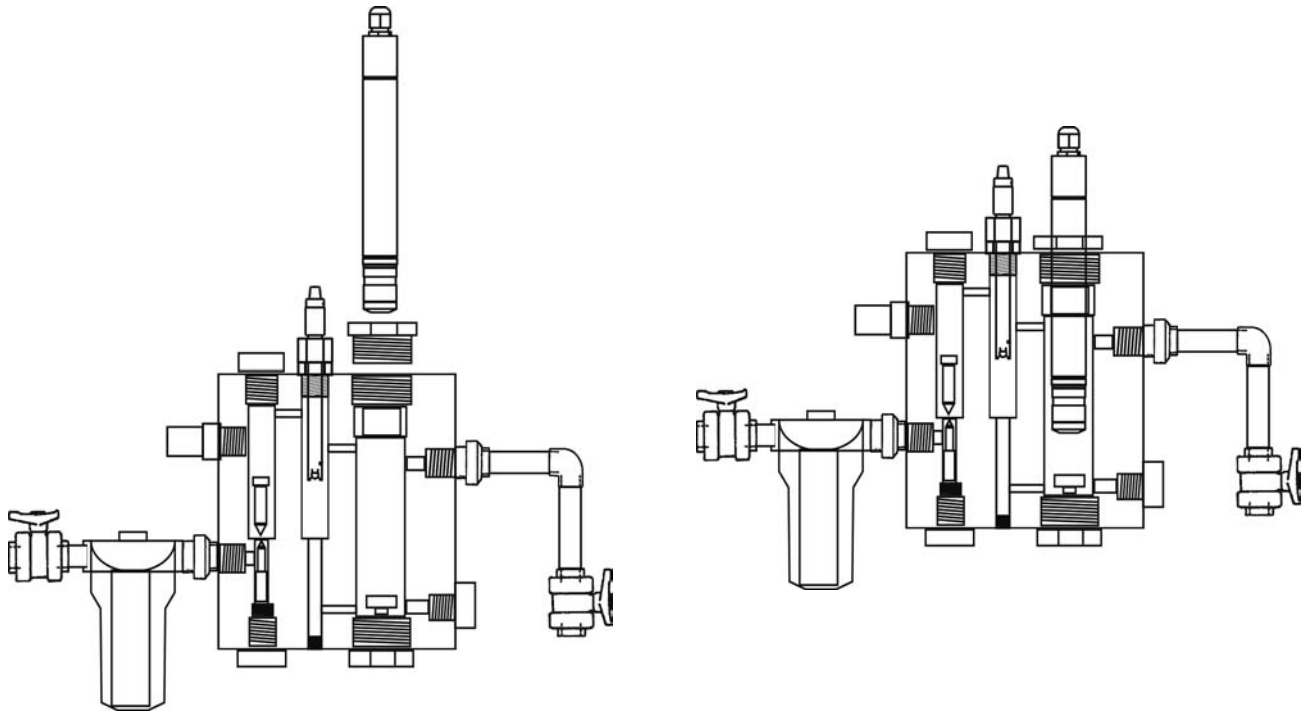

Fig. 13
1. Insert the CHLORINE sensor supplied into their corresponding places of the holder. (Fig. 13).